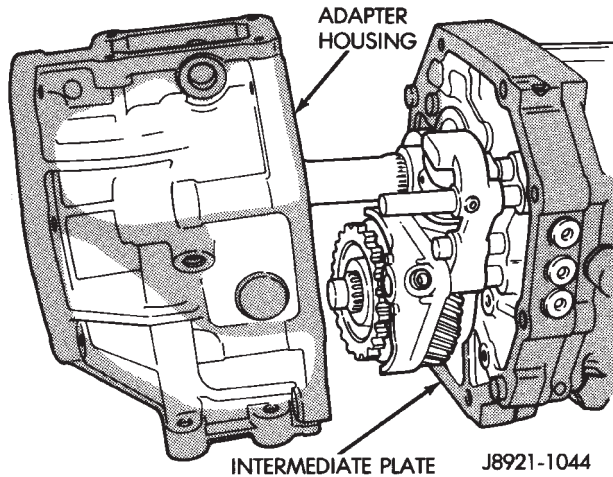

Fig. 38 Install Adapter/Extension Housing—Typical
- (8) Apply a 1/8 to 3/16 inch wide bead of Threebond® Liquid Gasket TB1281, P/N 83504038, to sealing surface of adapter/extension housing, making sure to keep sealer bead to inside of bolt holes.
- (9) Install adapter or extension housing on intermediate plate (Fig. 38). Tighten housing bolts to 34 N·m (25 ft. lbs.) torque.